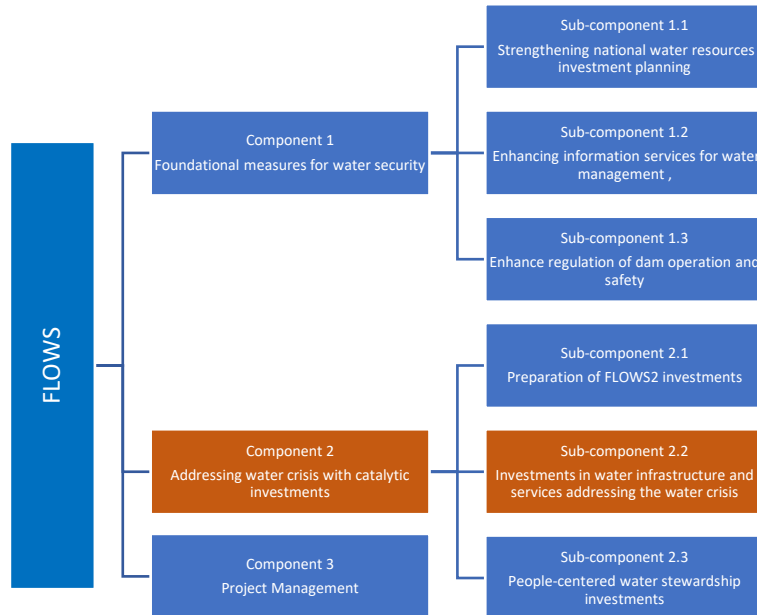

Figure 1. FLOWS components and subcomponents
- Figure 1: FLOWS components and subcomponents